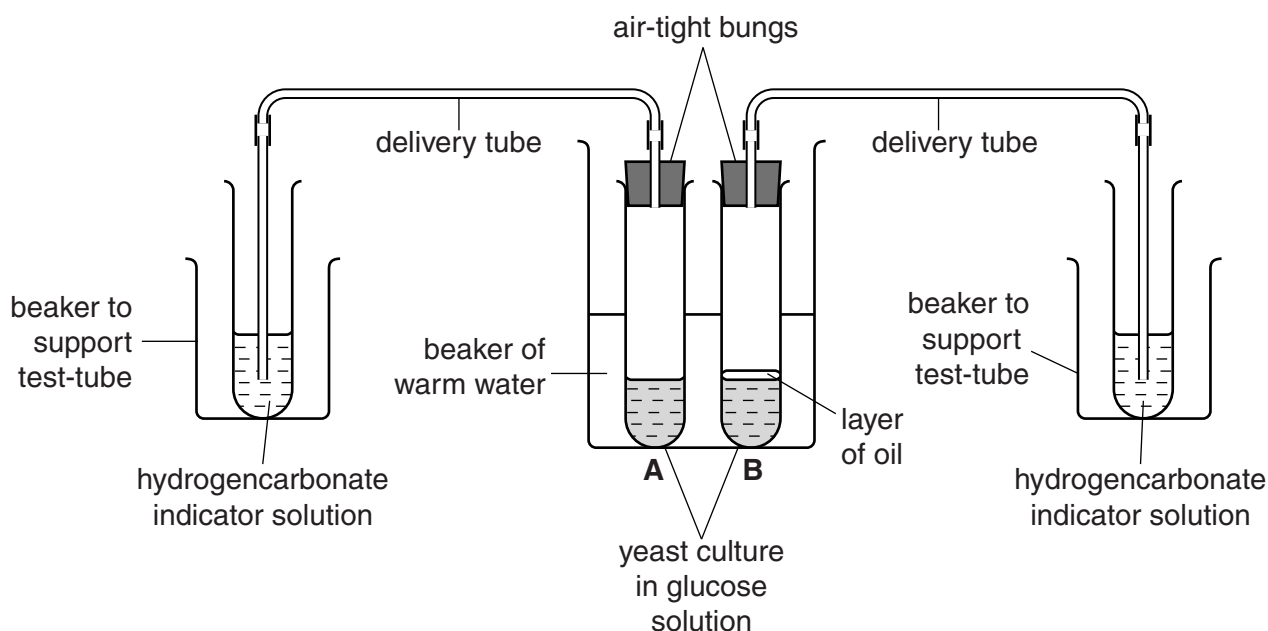

Fig. 1.1
- Set up the apparatus provided as shown in Fig. 1.1. Make sure that the open end of the delivery tube is below the surface of the hydrogencarbonate solution.